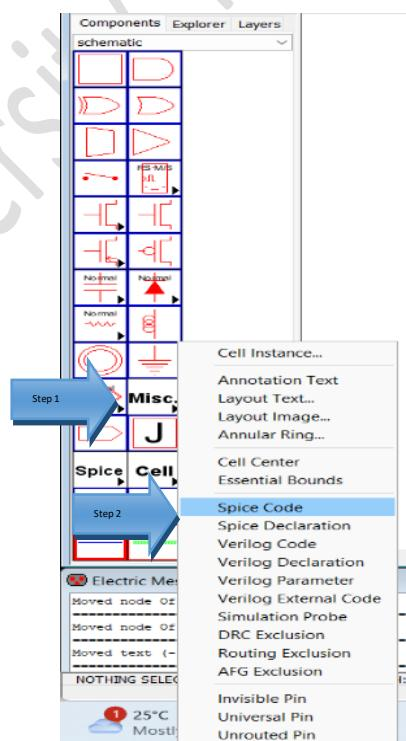

Figure 1.19: Select spice code.
13. Write spice code to describe how the inputs change in waveforms. then click on the main windows. (See Figure 1.19).